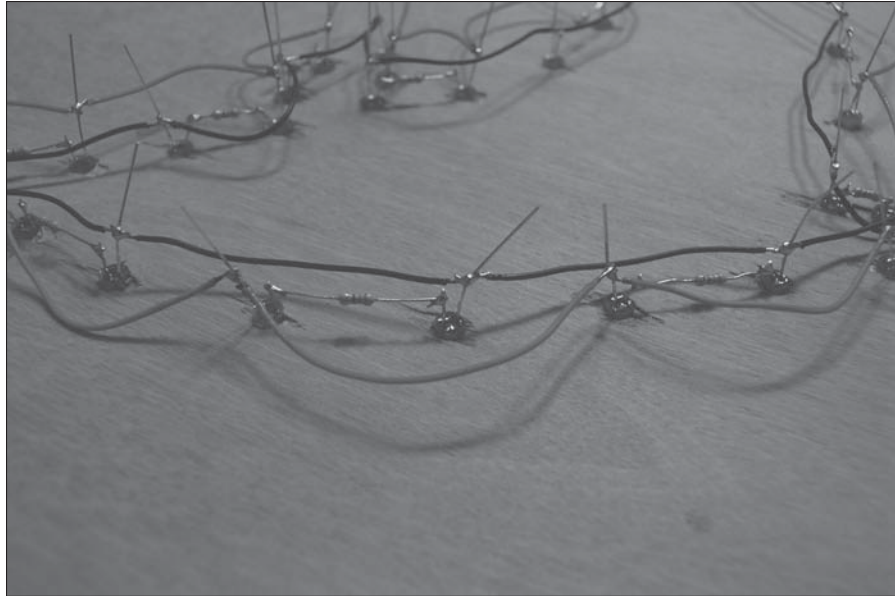

Figure 10-21:
12. **Solder the red wires to the leads, as shown in Figure 10-21.**